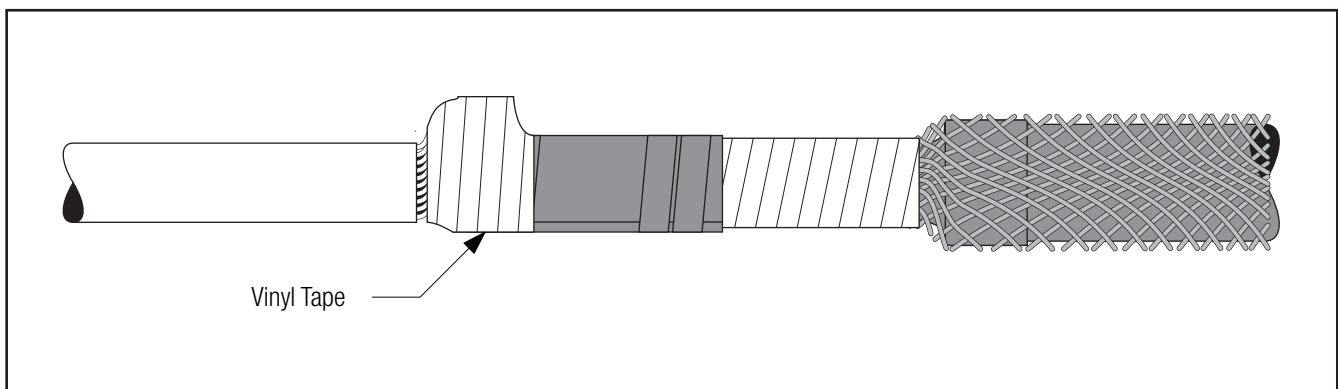

Figure 35
- 6.5.5 Fold connector over shield sleeve, ensuring that the connector is over the cable jacket piece, and secure with vinyl tape (*Figure 35*).